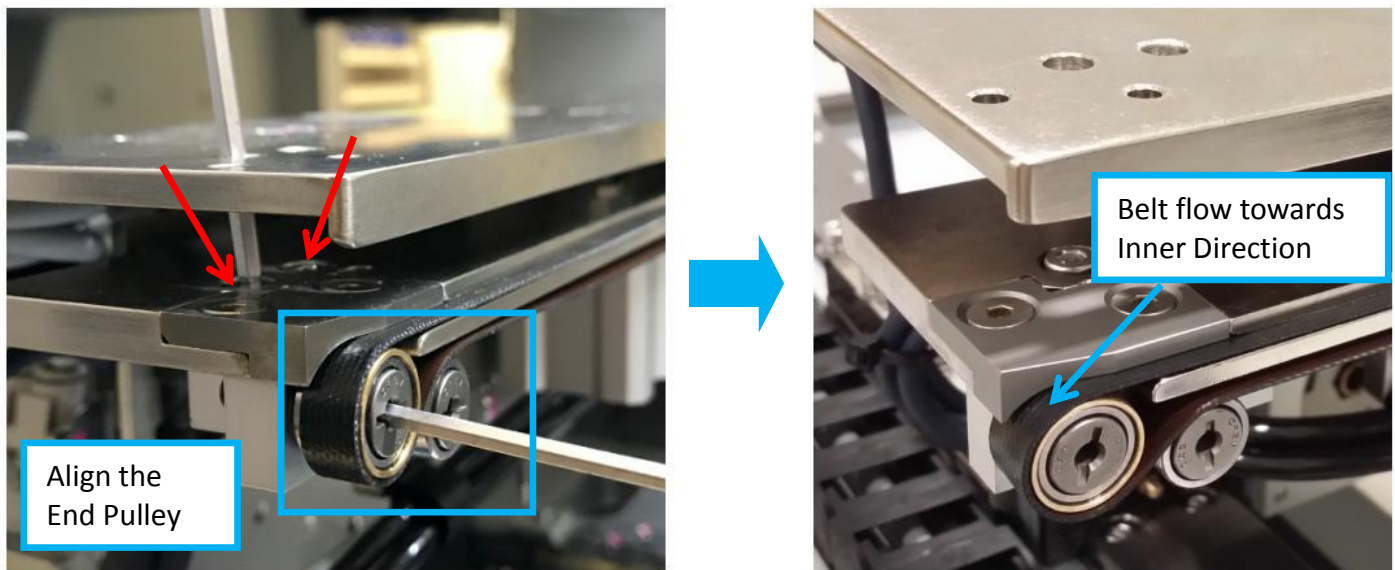

Figure 47 End Pulley Alignment
- e) Align the End Pulley until Belt Flow towards Inner Direction as below Figure 47. Tighten 2 x Screws after desire alignment achieve